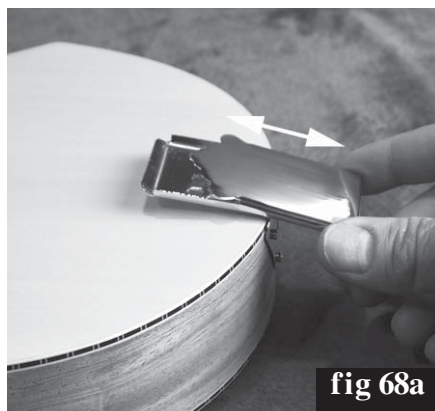

fig 68a
**68.** Now you are ready to install the strings! Begin by sliding the smooth metal cover off the back of the tailpiece (fig 68a).